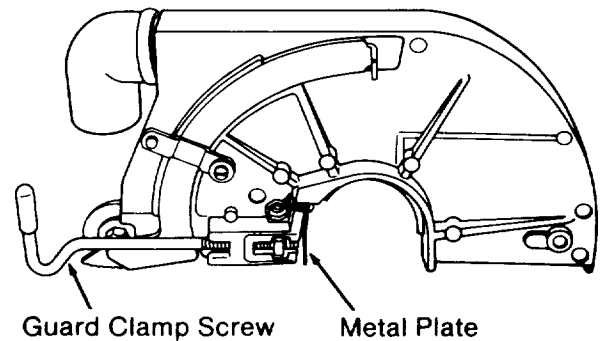

Fig. 101
1. Loosen the *guard clamp screw* until it no longer touches the metal plate. (Figure 101)